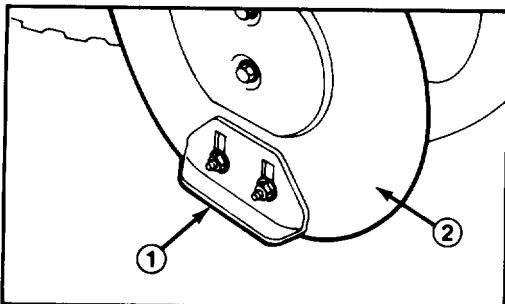

Figure 20
1. Move snowblower to a level surface. Next, loosen four flange nuts (Fig. 20) securing both skids to auger side plates. Skids must slide up and down.
3. Loosen four flange nuts (Fig. 20) securing both skids to auger side plates. Next, slide skids down as far as possible so auger is as far from level surface as skid adjustment allows; then tighten flange nuts.